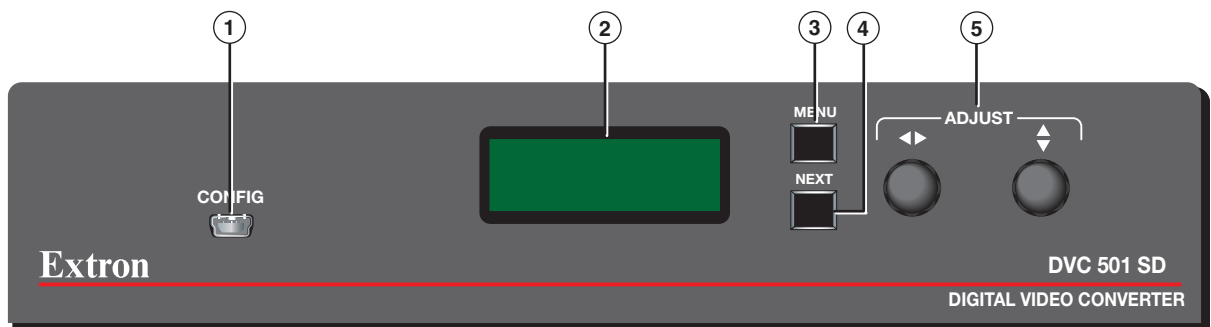

Figure 9. DVC 501 SD Front Panel
- **Config port (front panel)** — USB connection (① in figure 9, "Operation" section)